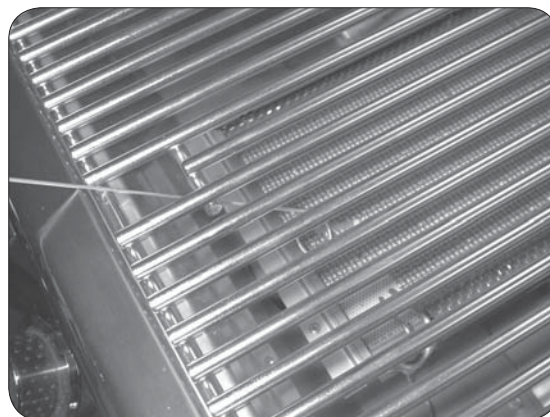

Fig. 19-2 - Manual lighting
2. Insert either a burning long-barrel butane lighter, a burning long-stem match, or a burning match held by a wire extension holder through the cooking grid opening to the top of the burner (Fig. 19-2).
4. If the burner does not light within five (5) seconds of turning the control knob, **immediately depress the knob and turn the valve to OFF**. **WAIT FIVE (5) MINUTES** before repeating steps 2 through 4 of the **MANUAL LIGHTING** instructions.